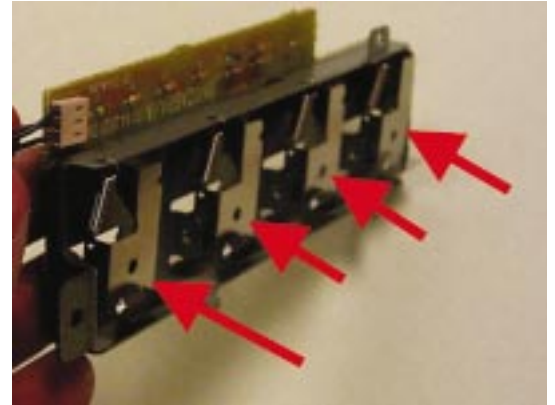

Figure 6 - Arrows denote toner key sensor tabs that bend.
5. If all else checks OK, replace the toner key sensor. A common failure is the metal hinge will be bent (Figure 6). Note: This has been prevented in an EC (engineering